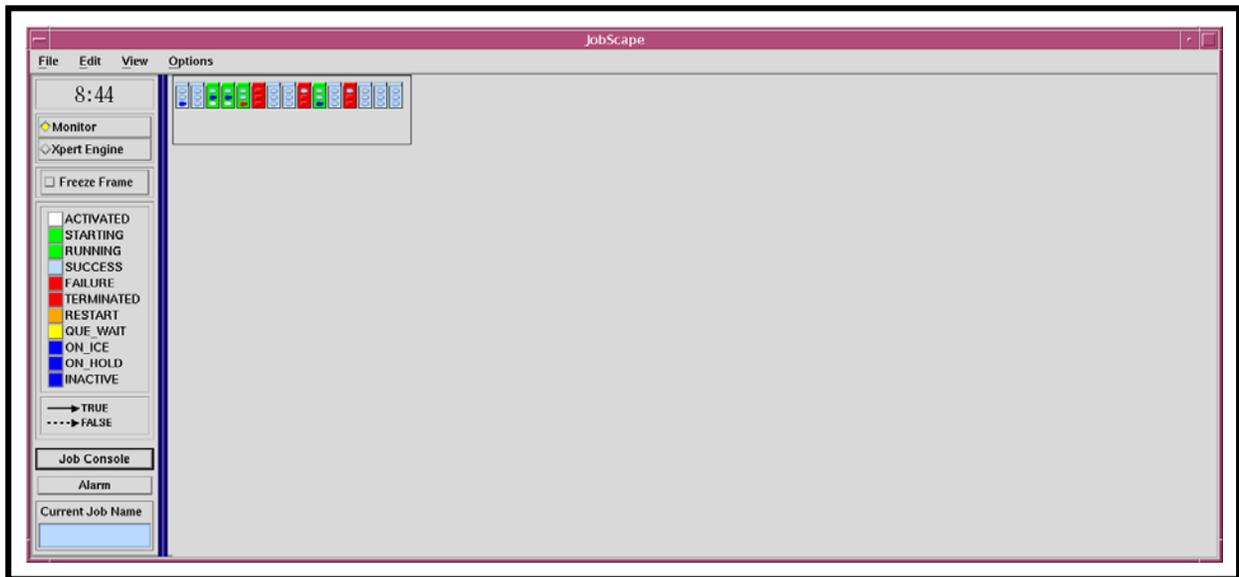

Figure 68. JobScope “No Text” View
- No text is displayed in the **No Text View** (Figure 68), which provides a global or big-picture view of the jobs currently in processing without specifically identifying them by name.